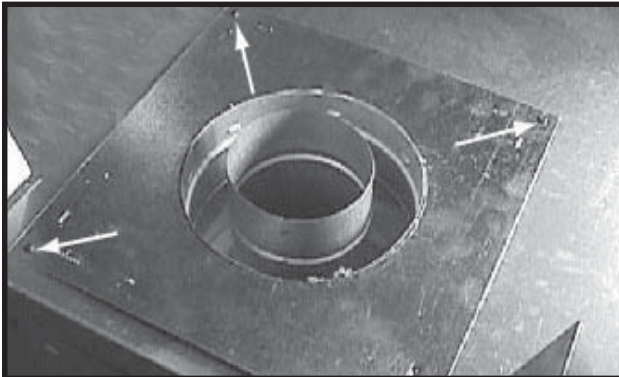

Figure 6 - Remove Plate Screws
- b. Remove the three remaining screws holding the plate surrounding the flue. See Figure 6. Remove the plate and set aside.